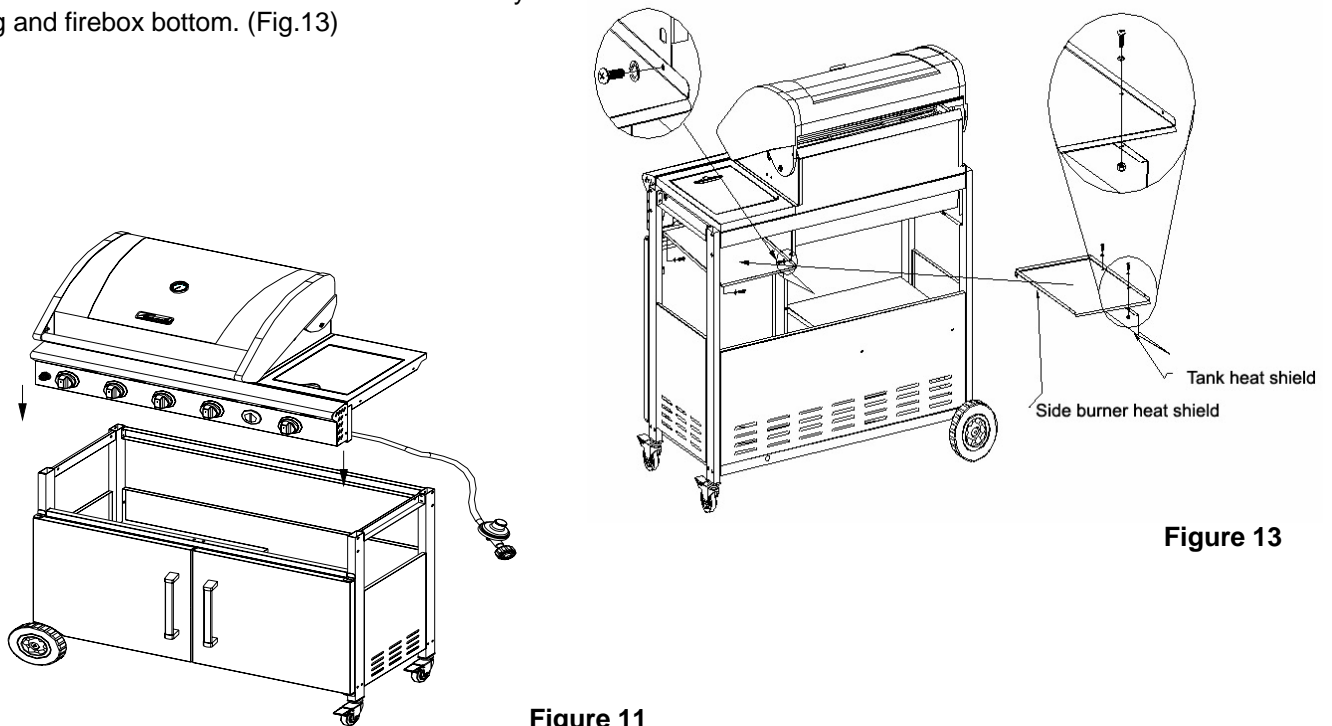

Figure 13
4. Use (2) 5/32 x 3/8" Phillips head screws and (2) 5/32" nuts with (2) 5/32" flat washers to attach the side burner heat shield and tank heat shield together. Use (3) 5/32 x 3/8" Phillips head screws with (3) 5/32" flat washers, (1) 5/32 x 1-1/2" Phillips head screw and (1) 5/32" nut with 5/32" flat washer to attach the shield assembly to the leg and firebox bottom. (Fig.13)